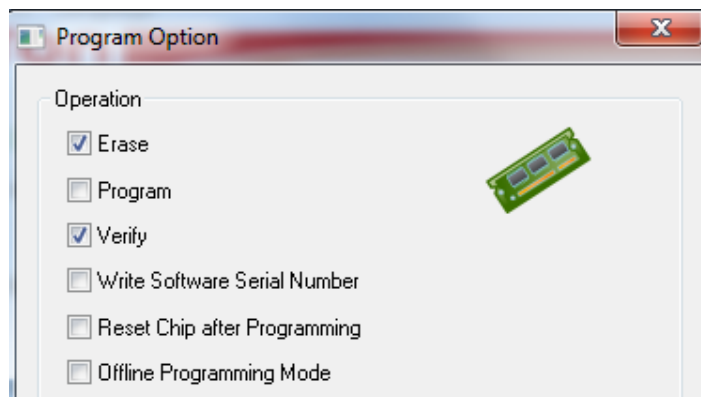

Figure 4-7 Program Option Selection
5. Select “Option” to enter “program option” page, as shown in Figure 4-7.